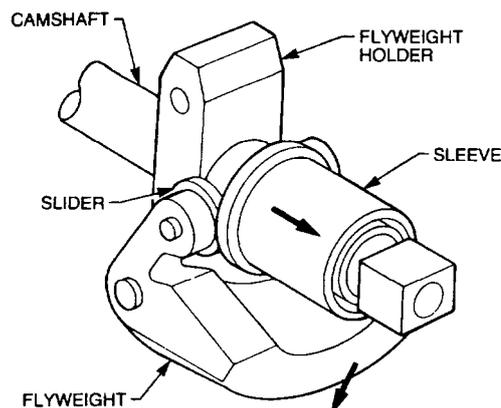

**Figure 24 Governor Assembly**
63. Figure 24 illustrates the governor assembly showing the location of the various components.